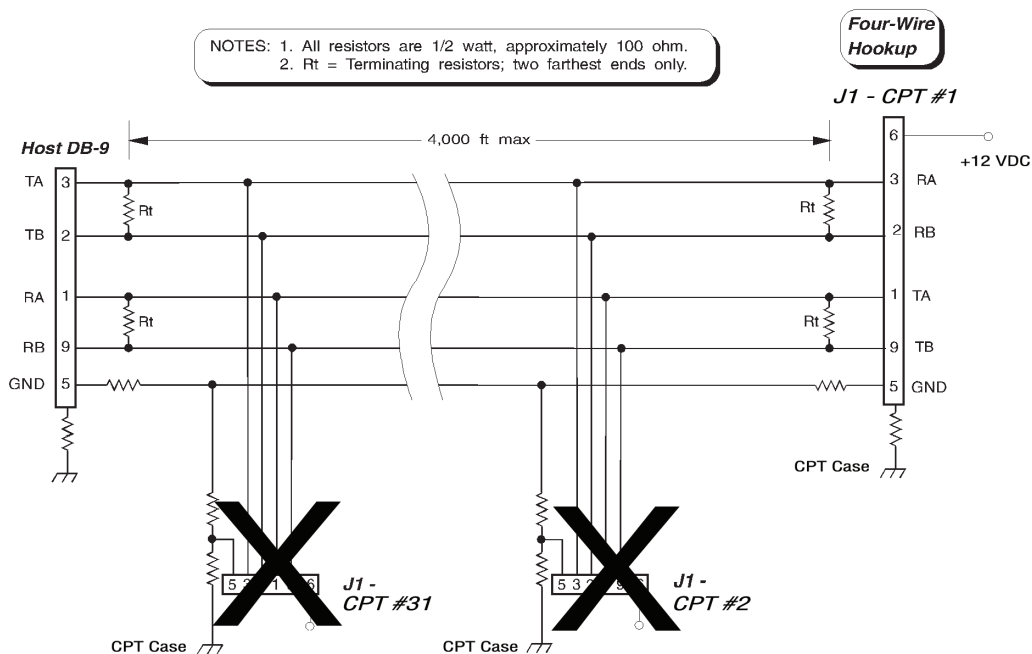

Figure 5.6.3 - RS-485 Cabling
**Only 1 CPT6140 can be connected using RS-485. Refer to Figure 5.6.3 for an illustration of a RS-485 wiring arrangement.**
For RS-485 serial operation, connect the host computer to the CPT6140 per the wire diagram shown in Figure 5.6.3. Notice that the host TRANSMIT lines are connected to the CPT6140 RECEIVE lines, TA to RA, TB to RB, and so on.